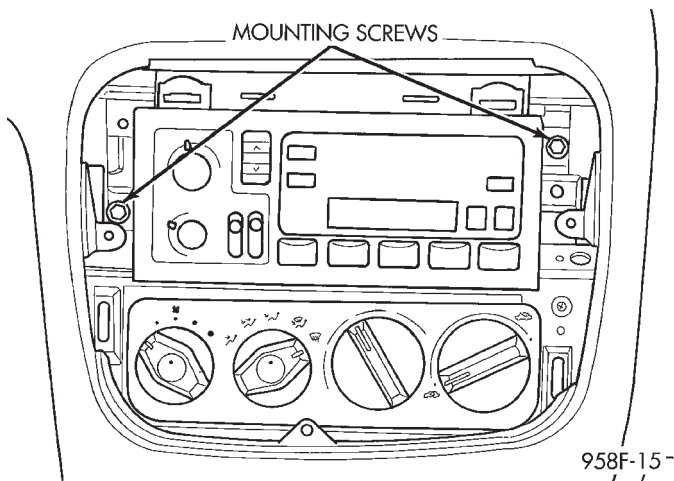

Fig. 9 Radio Assembly
- (2) Remove two radio mounting screws (Fig. 9).
- (3) Turn OFF radio and ignition switch. **DO NOT** disconnect the radio with ignition switch ON.
- (4) Pull radio from panel and disconnect wire connectors and antenna lead from radio.
- (5) Remove radio.